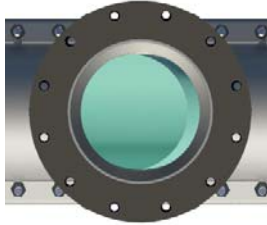

Figure 6
11. Check inside of line stop fitting outlet to ensure gasket is properly seated and not protruding where cutter can damage it. Ensure completion plug set pins are flush with I.D. of the flange (See Figure 6).